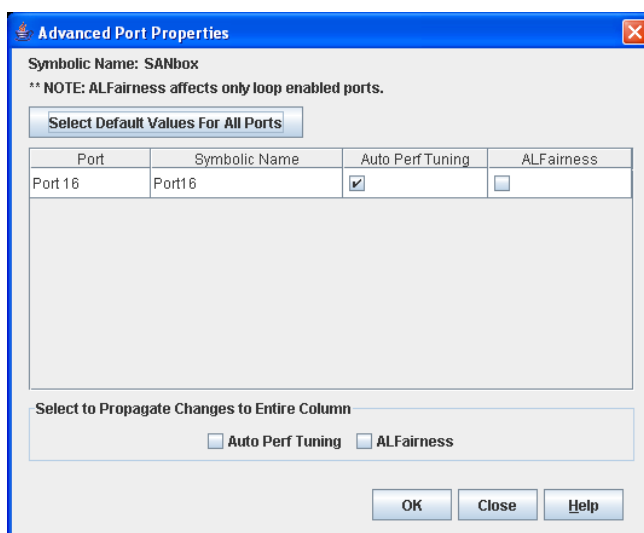

Figure 6-5. Advanced Port Properties Dialog
The Auto Perf Tuning and AL Fairness settings are configured using the Advanced Port Properties dialog shown in Figure 6-5. The Auto Perf Tuning option enables the switch to dynamically control the MFS_Enable, VI_Enable and LCF_Enable features based on the operational state of the port. The AL Fairness option controls how frequently the switch can arbitrate for access. Applies only affects ports running in loop (FL) mode. To open the Advanced Port Properties dialog, select one or more ports, open the Port menu, and select **Advanced Port Properties**.